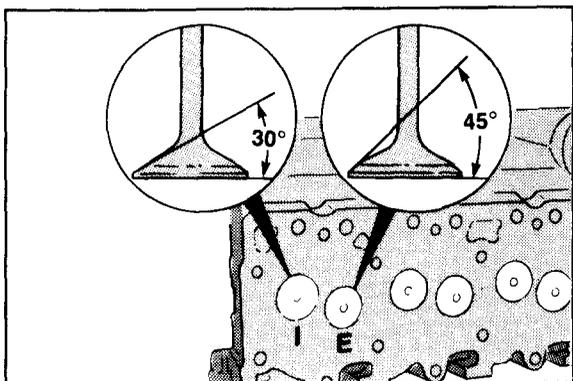

Figure 6-13
7. Check seat angle of valves. Intake is 30 degrees and exhaust is 45 degrees (Figure 6-13).